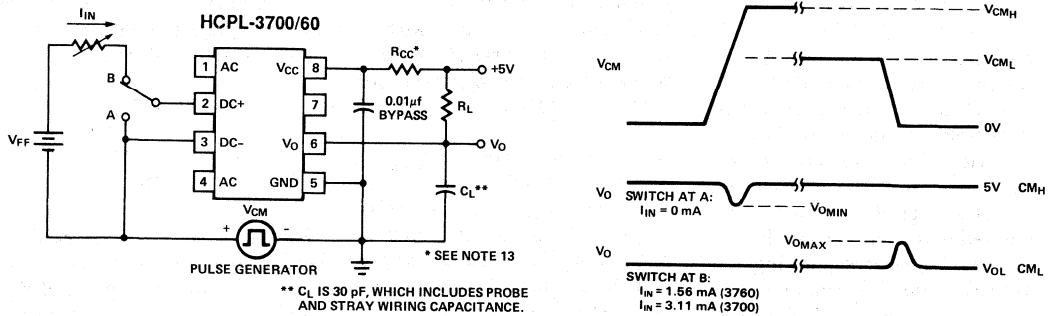

Figure 10. Test Circuit for Common Mode Transient Immunity and Typical Waveforms.
12. Common mode transient immunity in Logic High level is the maximum tolerable (positive) $dV_{CM/dt}$ on the leading edge of the common mode pulse, V_{CM} , to insure that the output will remain in a Logic High state (i.e., $V_o > 2.0\text{ V}$). Common mode transient immunity in Logic Low level is the maximum tolerable (negative) $dV_{CM/dt}$ on the trailing edge of the common mode pulse signal, V_{CM} , to insure that the output will remain in a Logic Low state (i.e., $V_o < 0.8\text{ V}$). See Figure 10.